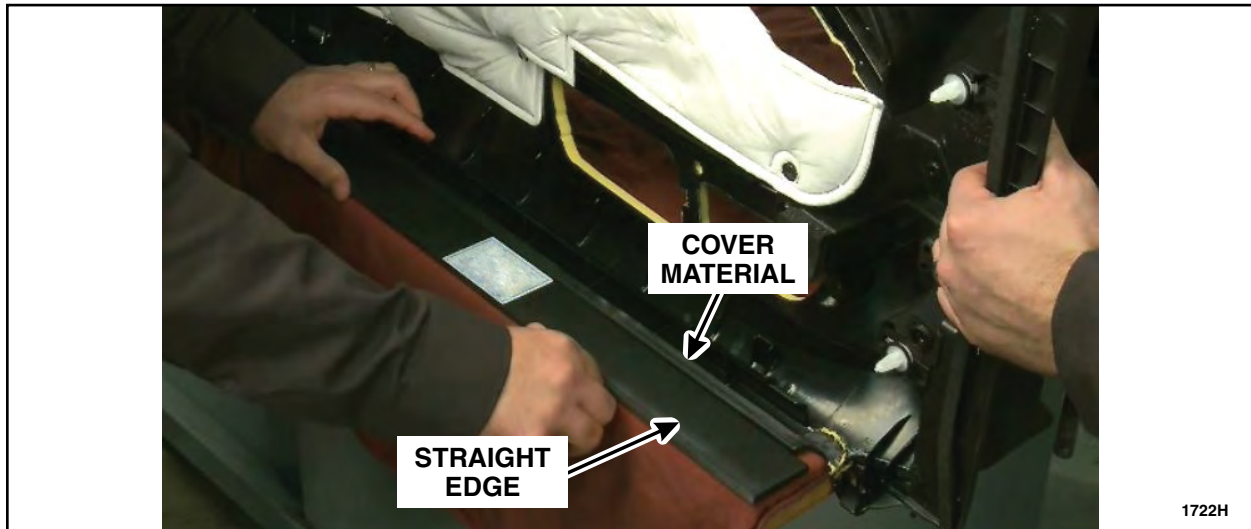

FIGURE 2
3. Roll the lip of the door trim cover material back into place using a straight edge to ensure a smooth even surface. See Figure 2.